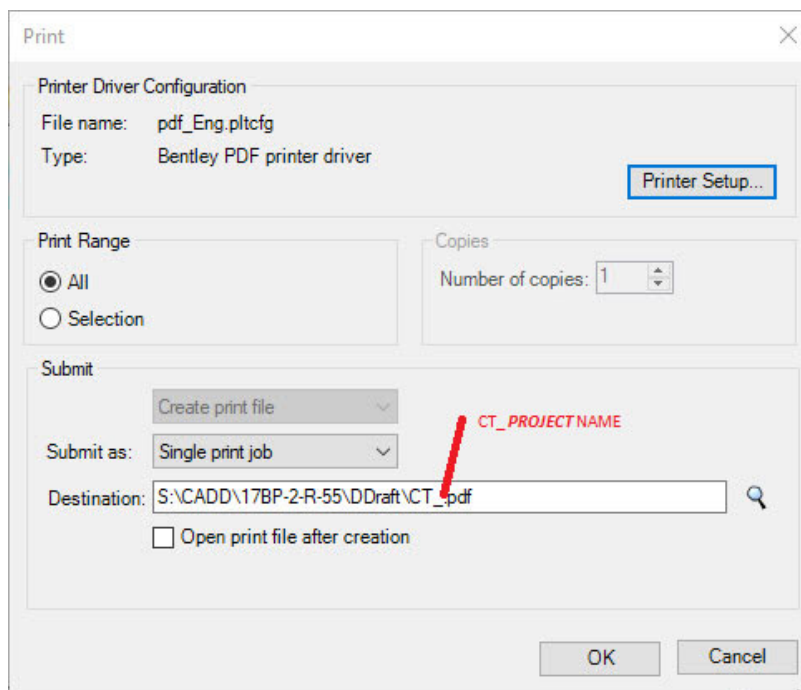

Figure 26 "CT file naming"
Step 9. In the *Print* dialog box (Figure 26 below) type in the TIP or project folder name between the "CT_" and the ".pdf".